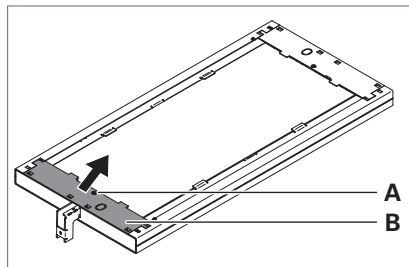

Fig. 1: Removing the cover.
- ▶ Screw the screw **A** out of the cover **B**, see Fig. 1.